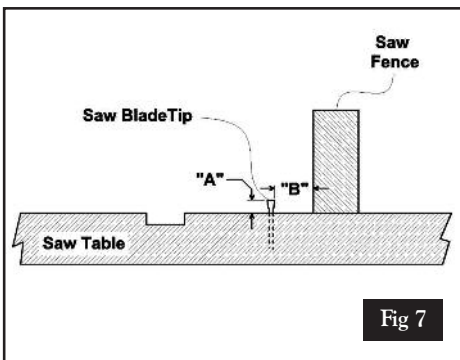
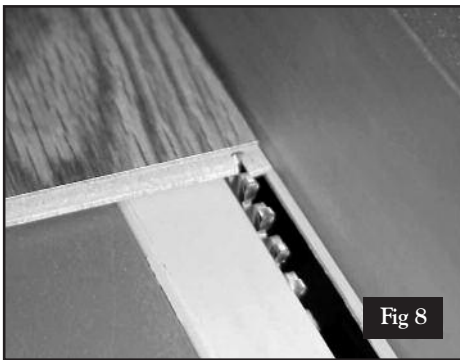
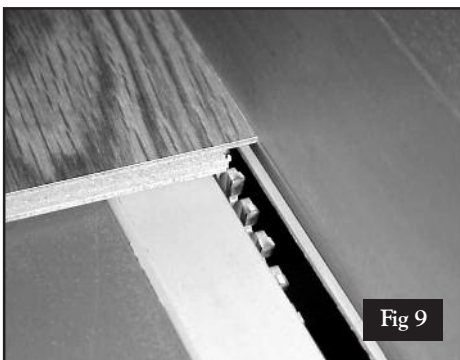
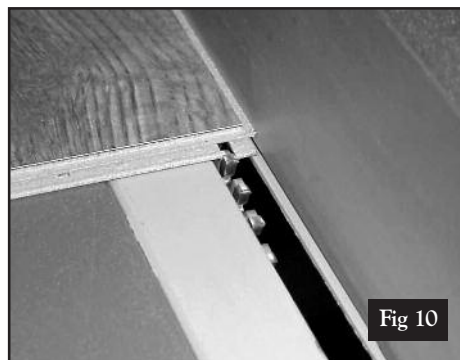

Fig 7
Fig 8
Fig 9
Fig 10
7. Next, set the table saw blade depth (Dimension "A") to 3/16" high and set the table saw fence (Dimension "B") to 3/16" from the inside of the blade (see Fig. 7). These measurements can be verified by running a scrap piece of lumber through the saw and then measuring the cut slot. After the settings are verified, run both (side and end of the plank/tile) tongue side profiles through the table saw (see Fig. 8). Now keeping the same settings rerun both the tongue side profiles through the table saw again to achieve the proper cut width (see Fig. 9).
8. Next, set the table saw blade depth (Dimension "A") to 1/8" high and set the table saw fence (Dimension "B") to 3/16" (Same as Step 7 above) from the inside of the blade. These measurements can be verified by running a scrap piece of lumber through the saw and then measuring the cut slot. After the settings are verified, run both of the groove side profiles through the table saw. Now, reset the table saw fence 5/16" from the inside of the blade (Dimension "B") (see Fig. 7). Recheck these measurements with the scrap lumber and measure the cut slot. Rerun the groove side profiles through the table saw to achieve the proper cut width (see Fig. 10).